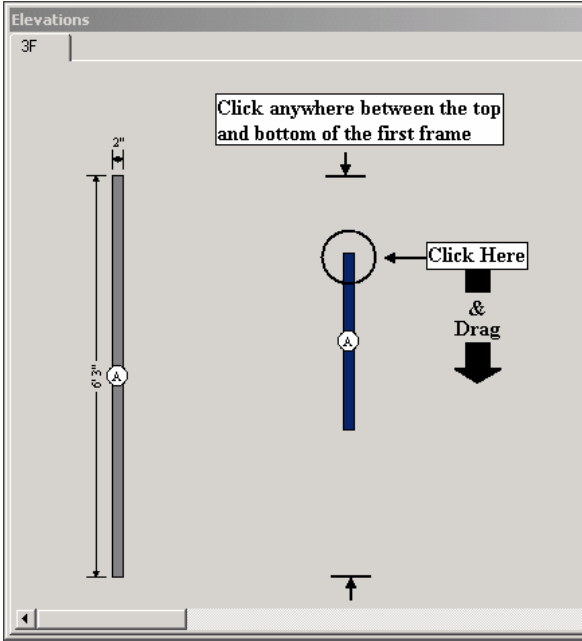

Figure 8
- 2. To create the second vertical frame member, click anywhere to the right and below the top of the first frame member like that in Figure 8. Again, drag the mouse down to the bottom of the screen, but this time, let go of the mouse button when the new frame's bottom is somewhere above the bottom of the first frame. After letting go of the mouse button, you should notice that the new frame will **stretch** to the size of the frame to the left. This stretching will only happen effectively if it is drawn like this instruction describes.